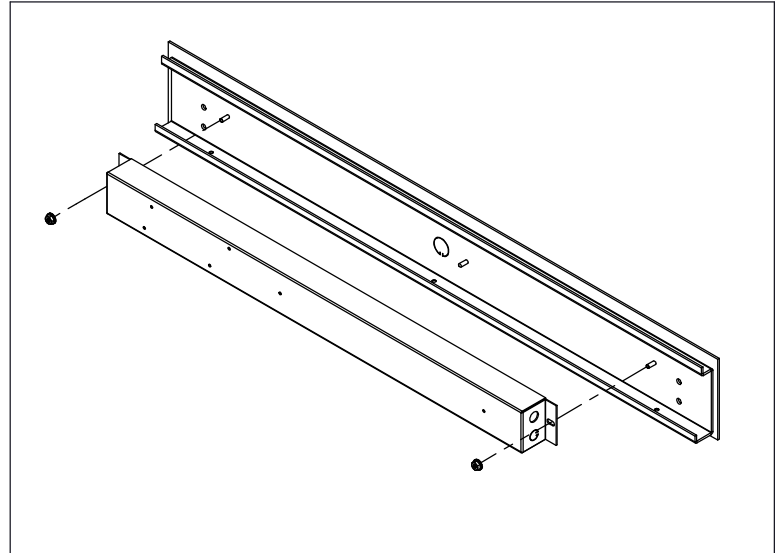

Figure 2
2. Remove wireway cover screws, then remove Wireway Cover from Mounting Plate (Fig. 2).